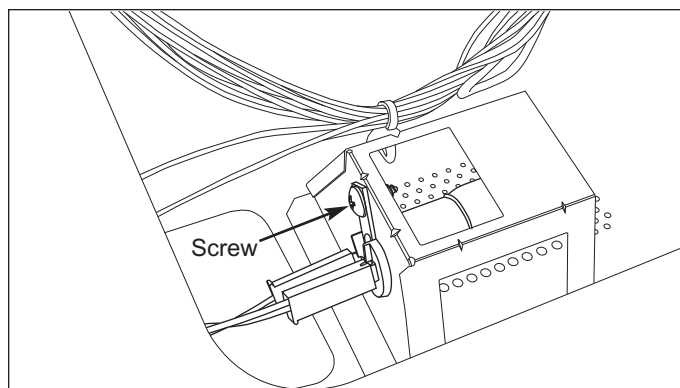

Figure 4-6. Lamp & Socket Removal
3. Remove lamp socket screw to remove the lamp assembly and replace with new (See Figure 4-6).
2. Re-connect wire leads to each switch (See Figure 4-6).